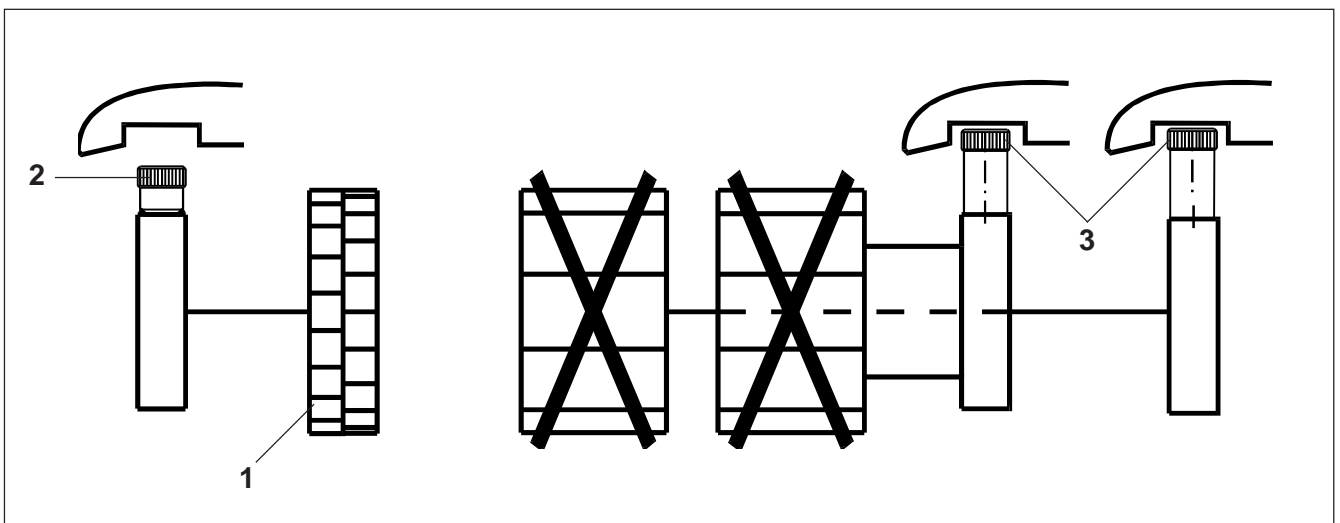

Fig. 20.8
Sowing by the fine seed metering wheel (Fig. 20.8/1):
- Drive in coupling screws (Fig. 20.8/2) of the fine seed metering wheel.
- Drive out both coupling screws (Fig. 20.8/3) of the main metering wheels.